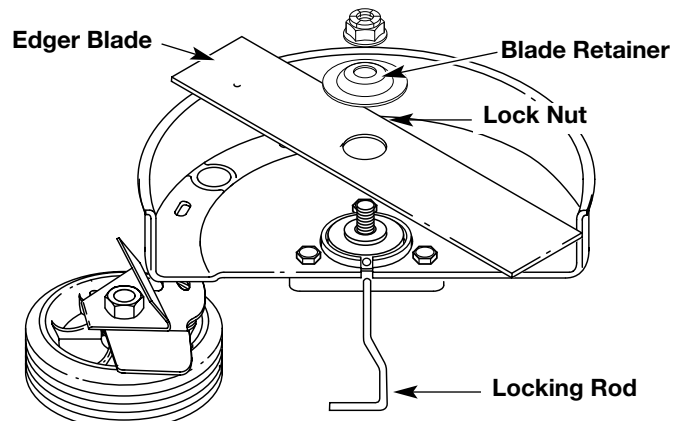

Fig. 29
3. Install the new blade, blade retainer, and nut (Fig. 29).